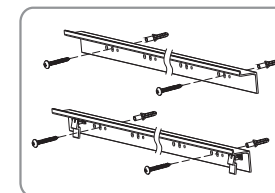

Figure 20
- Concrete wall mounting: to use an electric drill to drill 4 holes ( 2 holes for each bracket), and hammer the provided tapping anchors into each hole, then fix the brackets onto the wall by fastening the tapping screws to the tapping anchors. (Figure 20)